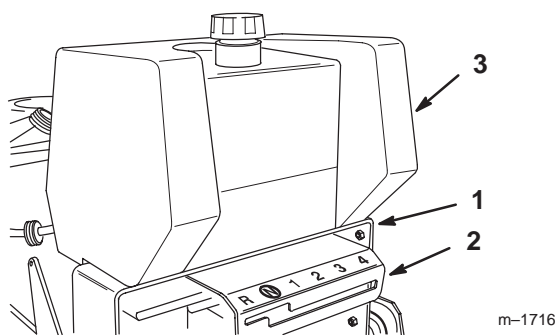

Figure 3
- Slide control panel over shift lever and under bottom of rear frame (Fig. 3). Align fuel tank to top of rear frame (Fig. 3).